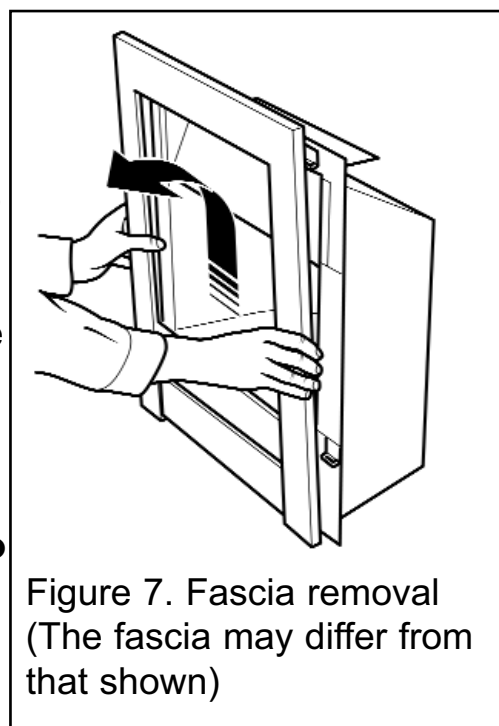

Figure 7. Fascia removal
● On 'Aspect Glass', 'Fascination' and 'Tranquility' models the fascia will have to be removed to gain access to the ceramic fuel effect. The fascia is held in place by four retaining plates at the back of the fascia. These slot into four retaining brackets on the hotbox. To remove the fascia, hold the sides of the fascia and lift upward and forward. The fascia should lift clear of the hotbox (See figure 7). The fascia can be replaced in the reverse order.
- On 'Aspect Glass', 'Fascination' and 'Tranquility' models the fascia will have to be removed to gain access to the ceramic fuel effect. The fascia is held in place by four retaining plates at the back of the fascia. These slot into four retaining brackets on the hotbox. To remove the fascia, hold the sides of the fascia and lift upward and forward. The fascia should lift clear of the hotbox (See figure 7). The fascia can be replaced in the reverse order.